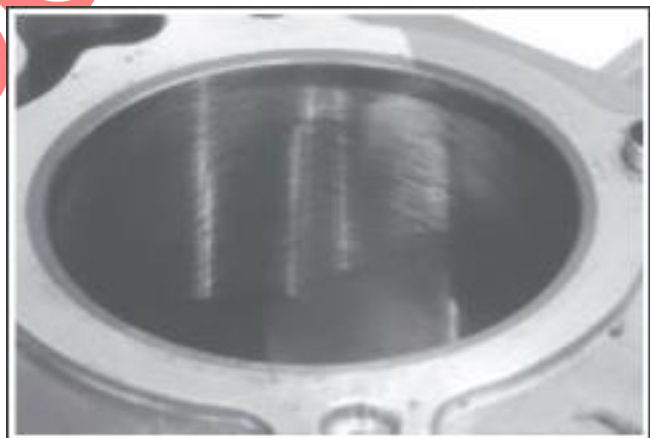

Figure 10-1. Cylinder Bore Crosshatch after Honing.
3. When the bore is within **0.064 mm (0.0025 in.)** of desired size, remove the coarse stones and replace with burnishing stones. Continue with the burnishing stones until within **0.013 mm (0.0005 in.)** of desired size and then use finish stones (220-280 grit) and polish to final size. A crosshatch should be observed if honing is done correctly. The crosshatch should intersect at approximately 23-33° off the horizontal. Too flat of an angle could cause the rings to skip and wear excessively, too steep of an angle will result in high oil consumption (refer to Figure 10-1).